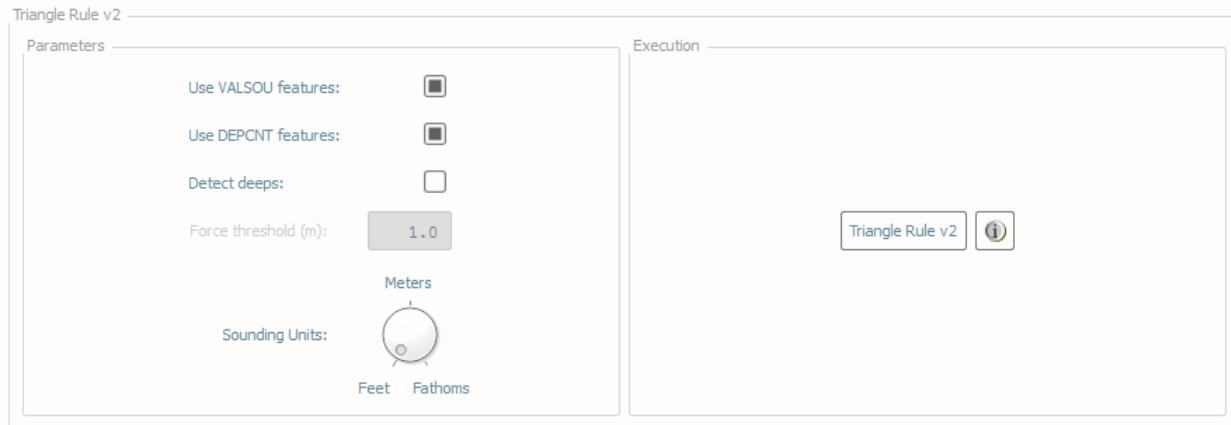

Fig. 2.70: Triangle rule's interface.
- In **Parameters** (Fig. 2.70, left side):
- In **Execution** (Fig. 2.70, right side), click **Triangle Rule v2**.